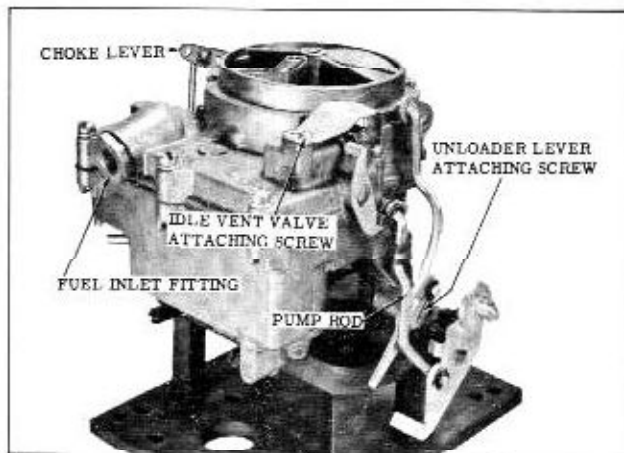

Fig. 8-139 2GC Carburetor
1. Mount carburetor on Holding Fixture BT-30-14 or J-5923-B. (Fig. 8-139)